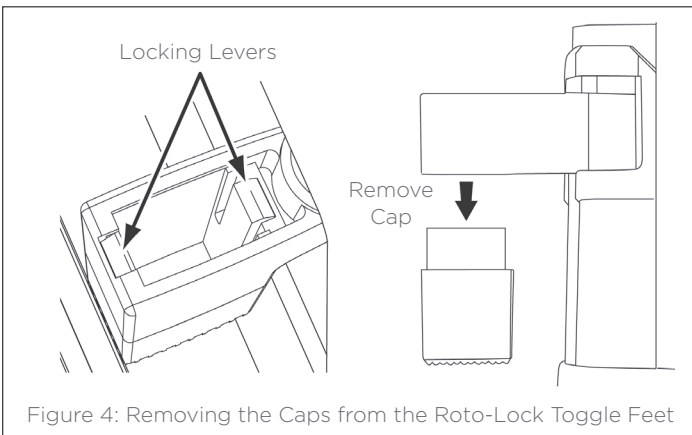

Figure 4: Removing the Caps from the Roto-Lock Toggle Feet
4. When installing into double drywall or other thicker wall materials, you may need to remove part of the two-piece toggle feet. Use a small screwdriver to gently release the two locking levers (see Figure 4).